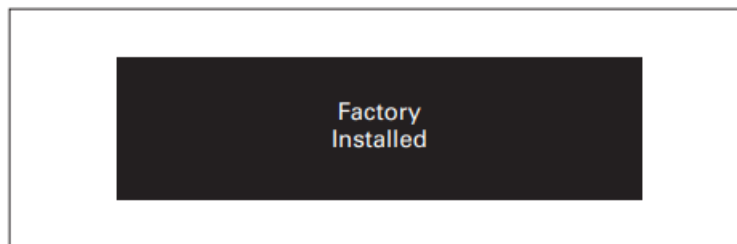

Figure 14. Typical phase "A" 240 Vac wire label
- Markings follow the industry-accepted phase colors. (See Figure 14 and Table 1.)